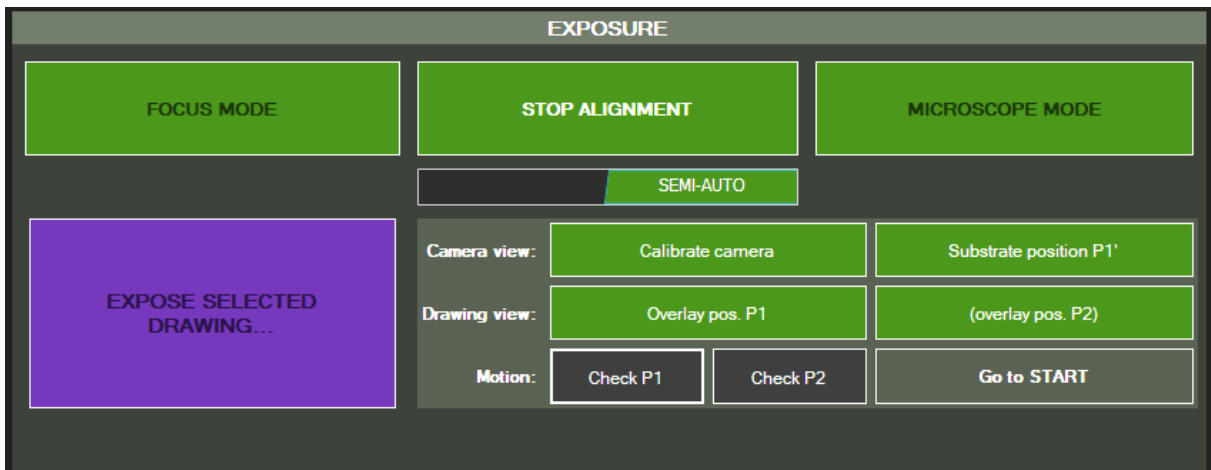

Figure 63 - Semi-auto alignment panel after defining P1', P1 and P2
- Alignment checking: in order to check the validity of the adjustment, click on the **Check P1** button (Figure 63). The stage will then move to align P1' (on the substrate) with P1 (on the drawing) as shown in Figure 58e. If P1 and P1' are not correctly centered make
- Finishing the alignment setting: click on the **Go to START** button (Figure 63) and quit the alignment mode by clicking on the **QUIT ALIGNMENT** button.